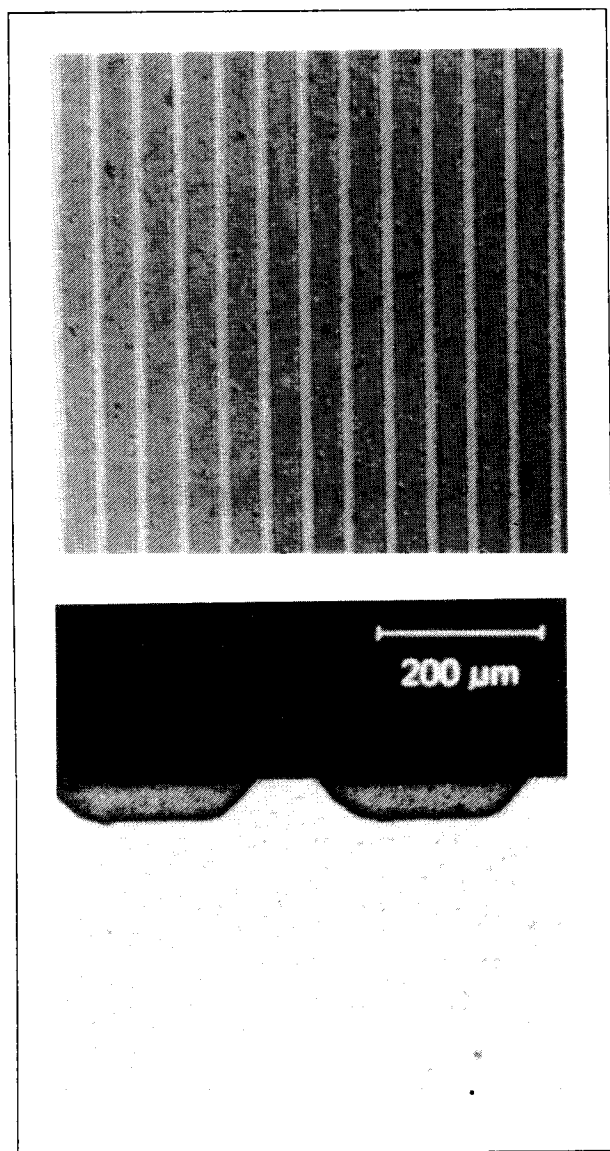

Fig. 2.
**Condition:** The slot geometry corresponds to a new bearing shell. The overlay in the slots is fully preserved, see fig. 2.